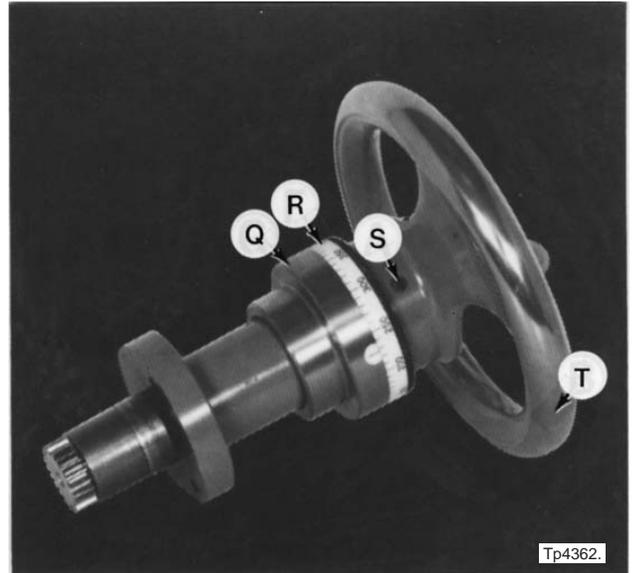

Figure 1.36 - Carriage Handwheel Assembly
1. Remove the lock screw located at "S", Figure 1.36 .
Do not misplace the nylon plug between lock screw "B", Figure 1.2, and dial "R", Figure 1.36 .
4. Replace handwheel "T", Figure 1.36 .
The clearance between dial "R", Figure 1.36, and zero ring "Q" should be set at .002" to .004" [.05mm to .1mm].
2. Adjust the clearance between dial "R", Figure 1.36, and zero ring "Q" as needed.